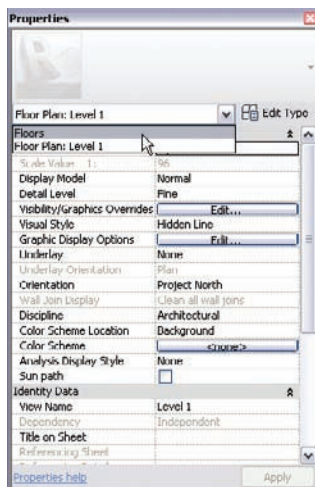

FIGURE 6.2 Changing the focus of the properties
4. In the Properties dialog, switch from Floor Plan: Level 1 to Floors, as shown in Figure 6.2.